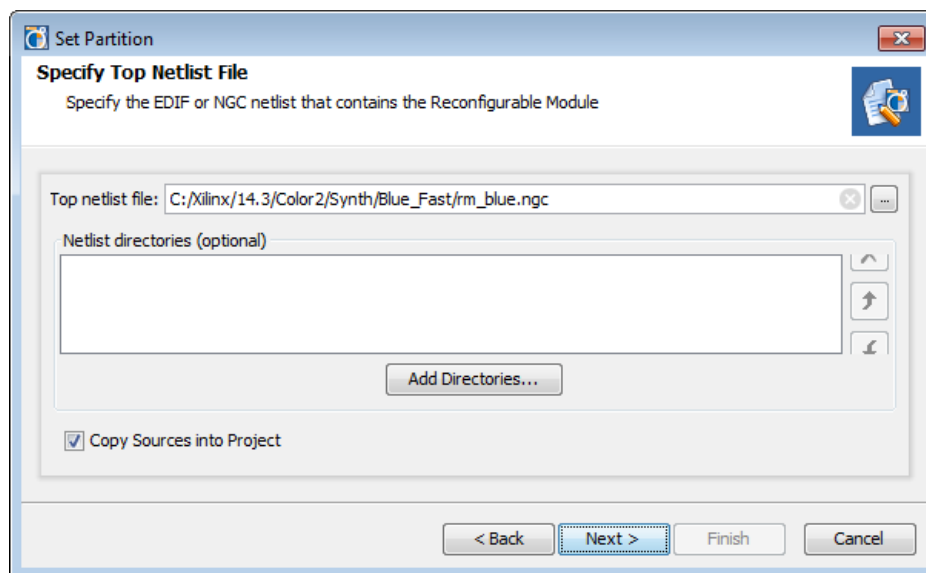

Figure 4-8: Defined Reconfigurable Partition with Single Reconfigurable Module
4. In the Set Partition dialog box, shown in Figure 4-8, provide the path to the NGC file.